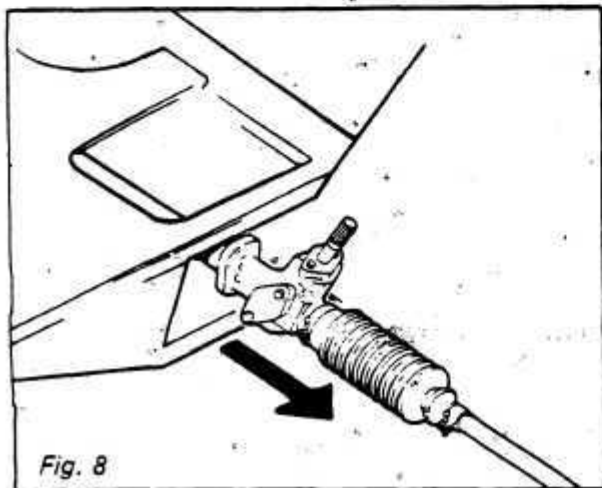

Fig. 8
9. Slide rack and pinion assembly out from the LH side of chassis frame. *Fig. 8*